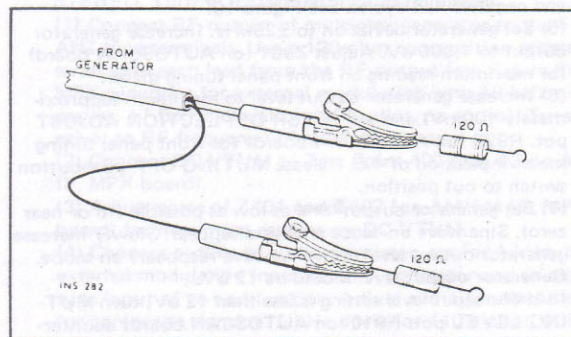
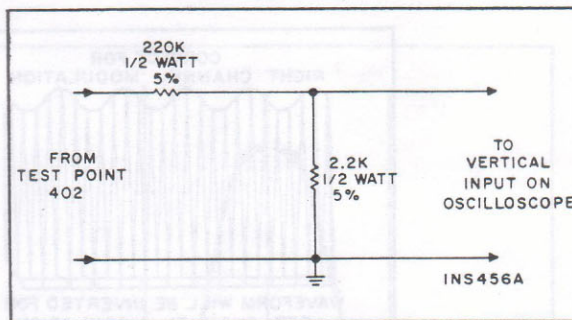

Figure 8. Connections To Provide 300-ohm Generator Output Impedance. Matching Resistors Reduce Generator Voltage By Half At Antenna Terminals.
Figure 11. Voltage Divider Probe.
(2) Connect an accurately calibrated DC VTVM to Test Point 701 (pin 7M on Muting board).
(3) Set dial pointer to 2.3 on logging scale. Adjust R4 MANUAL TUNING pot. (fine adjustment) for 5.63V indication on DC VTVM. Disconnect DC VTVM from Test Point 701 (pin 7M).
(4) Connect an FM generator to the FM ANTenna terminals. Use a 120-ohm composition resistor in series with each lead from the generator (see Figure 8).
(5) Connect a scope and an AC VTVM to either the LEFT or RIGHT RCDR OUT jack.
(6) Modulate FM generator with 400Hz, ± 75 kHz deviation. Set generator frequency to 90MHz. During alignment, adjust generator output as low as possible.
(7) Align (oscillator coil) L754 first, then (RF transformers) L753, and L752, and (antenna coil) L751 for maximum indication on AC VTVM and oscilloscope.
(8) Set generator frequency and dial pointer to 106MHz. Align (oscillator trimmer) C769 first, then (RF trimmers) C768, and C763, and (antenna trimmer) C754 for maximum indication on AC VTVM and oscilloscope.
(1) Connect an FM generator to the FM ANTenna terminals. Use a 120-ohm composition resistor in series with each lead from the generator (see Figure 8).
(2) Set MANUAL TUNING dial pointer to zero (0) calibration mark on logging scale. Set FM generator frequency to receiver frequency.
(3) Connect a scope and an AC VTVM to either the LEFT or RIGHT RCDR OUT jack.
(4) Modulate FM generator with 400 Hz, ± 75 kHz deviation.
(4) Connect scope vertical input to either LEFT or RIGHT RCDR OUT jack. Disconnect DC VTVM from pin 9P and reconnect to pin 9V. Connect a second DC VTVM to pin 9A (on AUTOSCAN board).
(5) Connect an FM generator to the FM ANTenna terminals. Use a 120-ohm composition resistor in series with each lead from the generator (see Figure 8). Modulate generator with 400 Hz, ± 75 kHz deviation. Set generator frequency to 88 MHz, and output level to 1,000 μ V.
(6) Press in right (upscale) AUTOSCAN TUNING pushbutton momentarily (release immediately after pushing in). AUTOSCAN circuit should tune receiver to FM generator signal and sine wave should appear on scope.
(7) Carefully adjust HOLD CONTROL pot. R916 (on AUTOSCAN board) for maximum reading on second DC VTVM (+3.5V to 4.5V on pin 9A). Note that first DC VTVM should indicate 0 volt on pin 9V when second DC VTVM indicates maximum voltage on pin 9A. Signal trace on scope should be clean sine wave.
(8) Reduce FM signal generator output level to 15 μ V. Sine wave on scope should remain locked in.
(9) Press in left (downscale) AUTOSCAN TUNING pushbutton momentarily, to make signal disappear. Press in right (upscale) pushbutton momentarily. AUTOSCAN circuit should retune receiver to FM generator signal and sine wave should reappear on scope.
(10) Set FM signal generator frequency to 108 MHz, and output level to 1,000 μ V. Press in right (upscale) pushbutton until AUTOSCAN circuit tunes to generator frequency. Repeat steps (8) and (9).
- (1) Connect RF output of multiplex generator to the FM ANTenna terminals. Use a 120-ohm composition resistor in series with each lead from the RF output (see Figure 8). Set MPX generator for external modulation with 19 kHz pilot carrier, ± 7.5 kHz deviation (10% pilot, no audio). Tune receiver to RF frequency of MPX generator.
- (2) Connect DC VTVM to Test Point 403 (pin 4G on AM/FM IF, MPX board).
- (3) Adjust cores of Z401 and Z402 (on AM/FM IF, MPX board) for maximum reading on DC VTVM.
- (4) Connect output of audio generator, set for 1 kHz, to the external modulation input of MPX generator and to external sync input of an oscilloscope. Adjust audio generator level for composite signal ± 75 kHz deviation (10% pilot, 90% audio).
- (5) Connect AC VTVM to LEFT RCDR OUT jack. Connect scope through voltage divider probe (see Figure 11) to Test Point 402 (4K on AM/FM IF, MPX board).